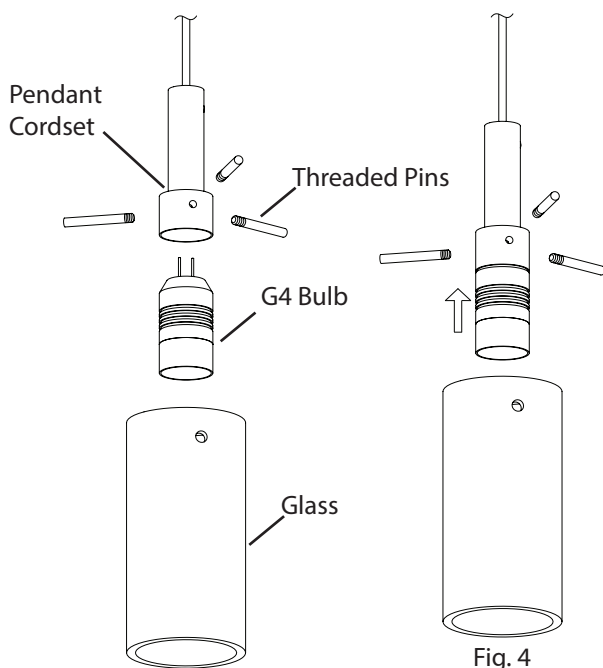

Fig. 4
1. Install the included **G4 Bulb**. (Fig. 4)